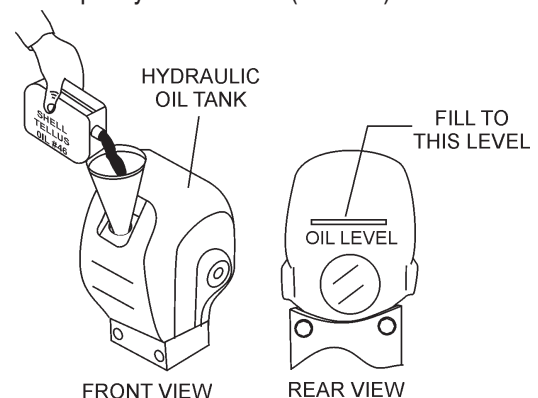

Figure 31. Hydraulic Oil Maintenance
2. Using a funnel, add **Shell Tellus Oil #46** or equivalent to the hydraulic oil tank through the oil filler port (Figure 31). Oil tank capacity is 50.7 fl. oz (1500 cc)